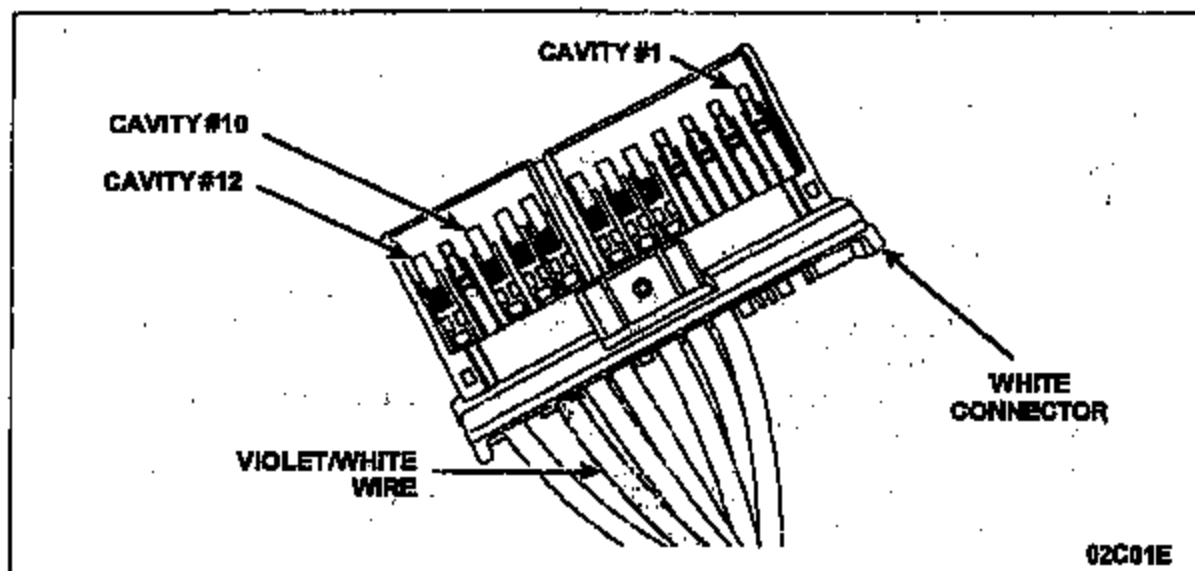

FIGURE 5
6. Open the white 12-pin connector locking clamp and install the VIOLET/WHITE wire into cavity No. 10. Pull the white wire with light force to make sure it is fully seated. Then, close the locking clamp. See Figure 5.